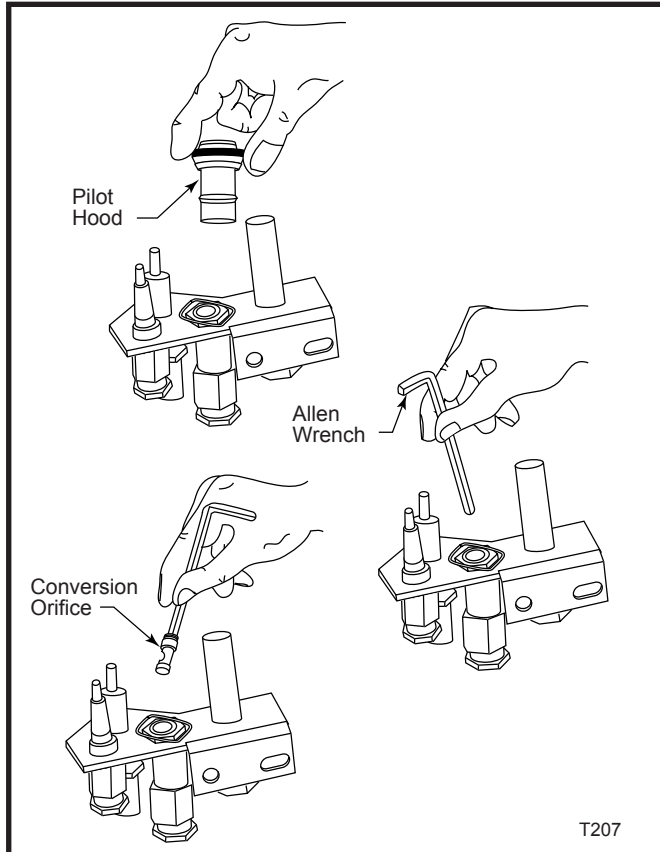

Fig. 54 Remove pilot hood and orifice. Insert conversion orifice.
1. The pilot hood is held in place by spring pressure. Remove the hood by pulling it directly up from the pilot bracket. (Fig. 54)
2. Insert a 3/32" (4mm) Allen wrench into the hexagonal keyway of the injector (Fig. 54) and rotate it counter-clockwise until it is free of the injector journal. (Fig. 54)
4. Insert the Allen wrench into the end of the injector. Insert the injector into injector journal, and rotate the injector clockwise until a torque of 9 in/lbs. is achieved. Replace the pilot hood by aligning the tab on the base of the hood with the slot in the side of the pilot journal. Push the hood down directly onto the pilot bracket. (Fig. 54) The hood must sit squarely on the bracket for proper operation. Check to insure the hood is properly seated onto the pilot bracket.